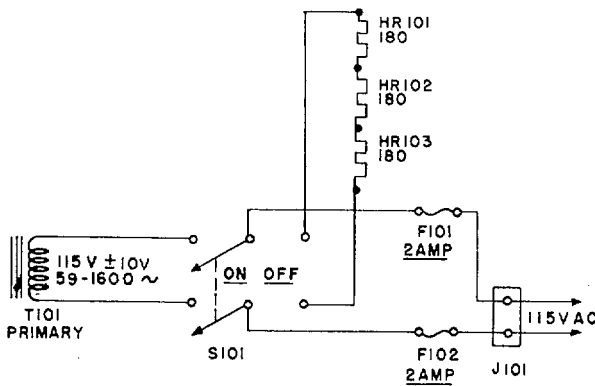

Figure 3-1. Primary Power Distribution Diagram
(2) During the warm-up period, the grain of wheat type dial lamps over the DBM and FREQUENCY dials should light as well as all tube filaments. The voltage regulator tubes (V105 and V106) should glow steadily. The needle of the bridge meter should deflect from the SET POWER point.
(3) After the warm-up period, with the TEST knob at TRAN, adjust the SET ZERO-FINE knob until the meter reads SET ZERO. If this is not possible, alter the position of the screw driver control at the front panel (SET ZERO-COARSE) until the meter needle is at the SET ZERO point with the SET ZERO-FINE knob in approximately mid-position.
(4) Turn switch S101 to OFF and remove plug from power source receptacle.
**THE TEST SET DRAWS CURRENT FROM THE AC LINE TO OPERATE THE CABINET HEATER WHEN THE POWER SWITCH IS IN THE OFF POSITION (SEE FIGURE 3-1).**
(5) Return test set chassis to its carrying case. Take care not to bump or injure components in the process.